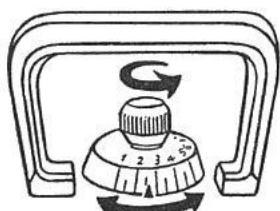

Fig. 9
Unscrew the adjustment knob anti clockwise and turn the the disc until the black arrow points to the required number. Fig.9.
Set the adjustment disc at the required number as in Fig. 9 and 10, for example at size 4.
- **Set the adjustment disc for size of stitch at number 6 as in Figs. 9 and 10.**